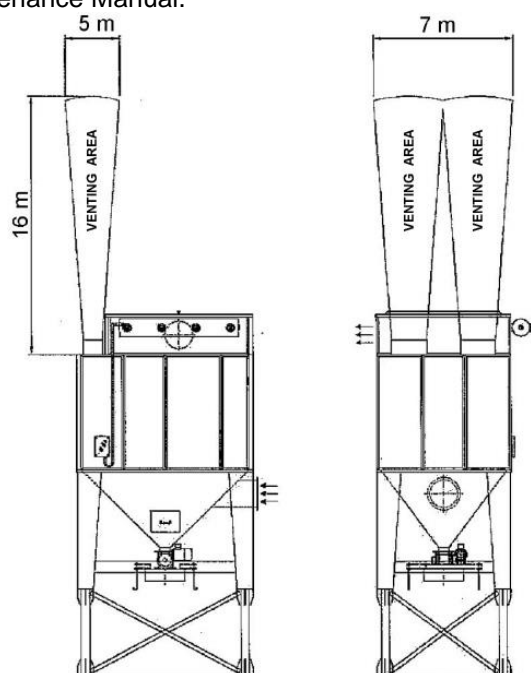

Fig. No.5 – Decompression panel – Zone of hazard
3.5 At the side of decompression panel – it is important to create a hazard area of potential explosion according to the Fig. No.5. This area should be free of barriers such as machines, devices, walls etc.